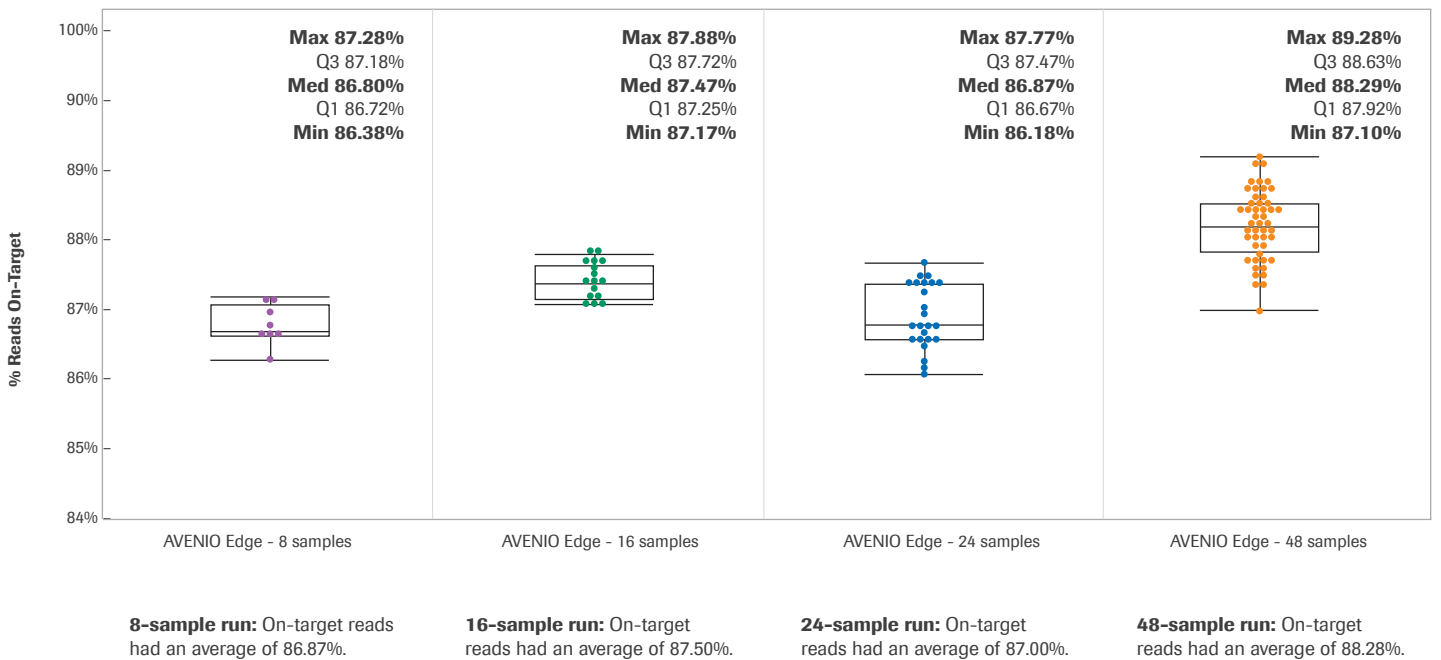

Figure 4. The %Reads On-target (>86%) Demonstrate High Specificity
- High specificity with >86% (see Figure 4) of reads on-target